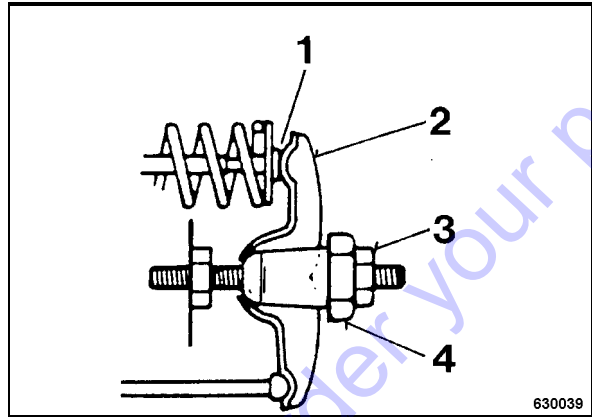

Fig. 45
- Check the valve clearance with a feeler gauge on both valves 1 (Fig. 45).